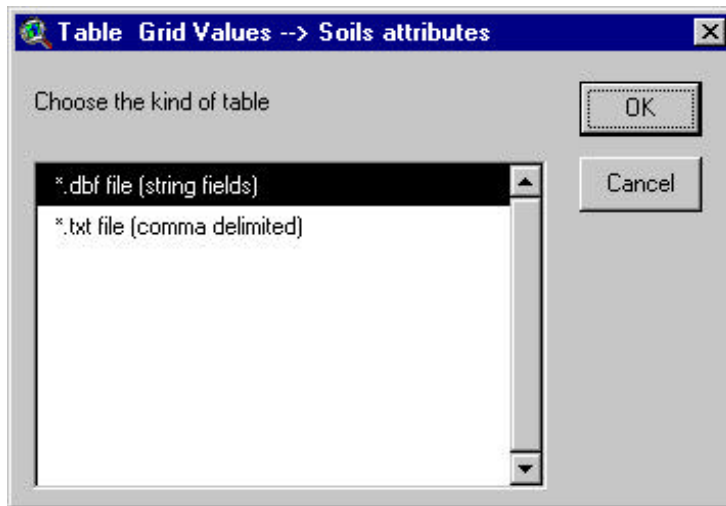

Figure 6.45
- b. A prompt box will appear that allows the user to specify the format of the land use classification table (Figure 6.45). The land used classification table may be formatted in dBASE (.dbf) or ASCII (.txt).